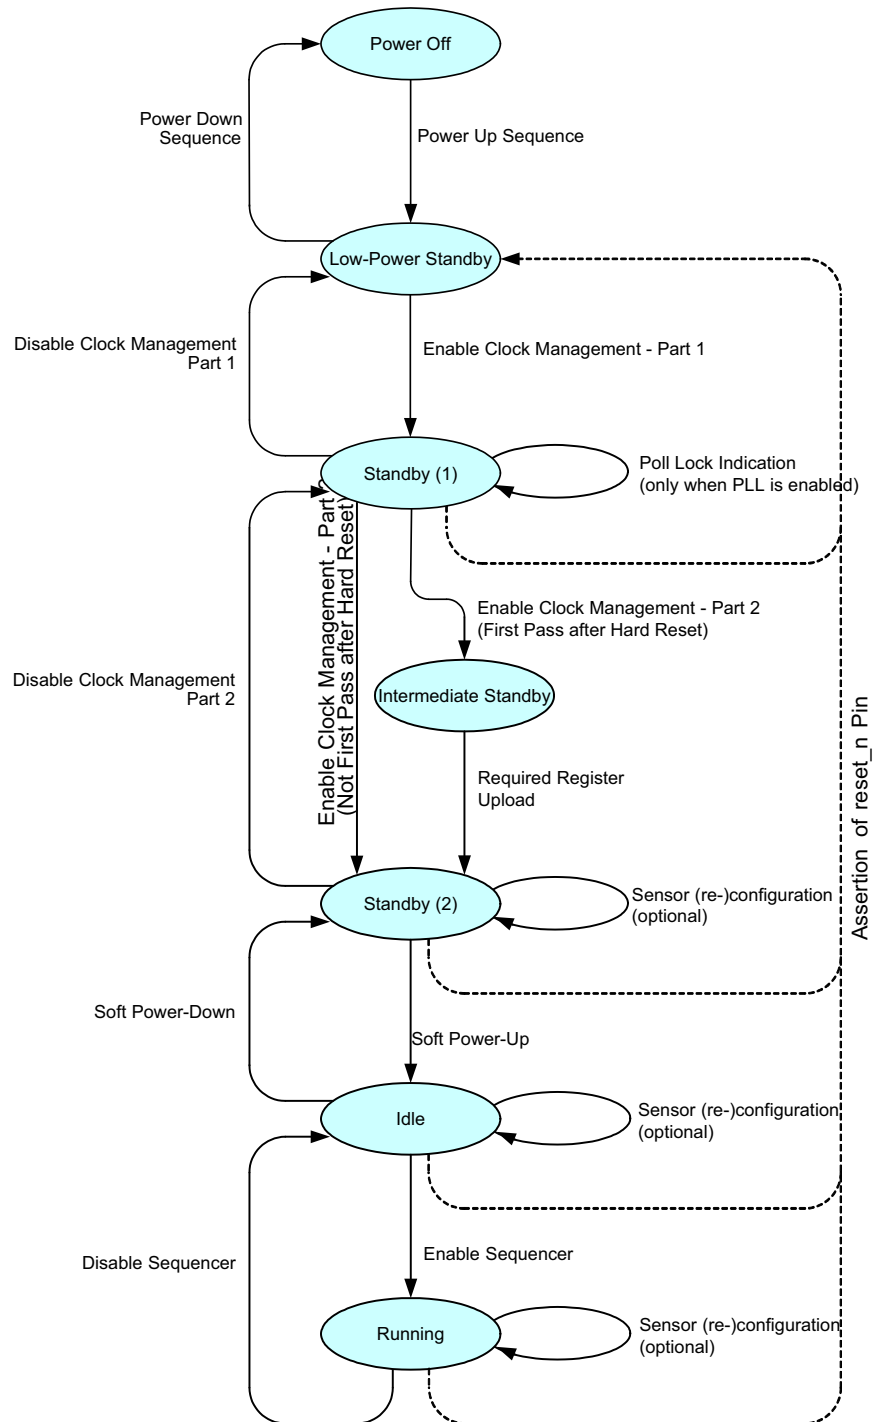

Figure 15. Sensor Operation Flowchart
Figure 15 shows the sensor operation flowchart. The sensor has six different 'states'. Every state is indicated with the oval circle. These states are Power off, Low power standby, Standby (1), Standby (2), Idle, Running.
Check the PLL_lock flag 24[0] by reading the SPI register. When the flag is set, the 'Enable Clock Management– Part 2' action can be continued. When PLL is not used, this step can be bypassed as shown in Figure 15 on page 15.